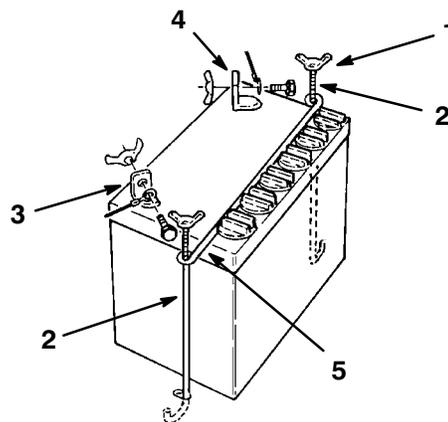

Figure 22
3. Disconnect the negative (black) ground cable from the battery post (Fig. 22).
- Slide the rubber cover up the positive (red) cable. Disconnect the positive (red) cable from the battery post (Fig. 22).
- Remove the wing nuts securing the battery hold-downs to the tractor chassis (Fig. 22).
- Using the bolt and wing nut, connect the positive (red) cable to the positive (+) battery post (Fig. 22). Slide the rubber cover over the battery post.
- Using the bolt and wing nut, connect the negative (black) cable to the negative (-) battery post (Fig. 22).